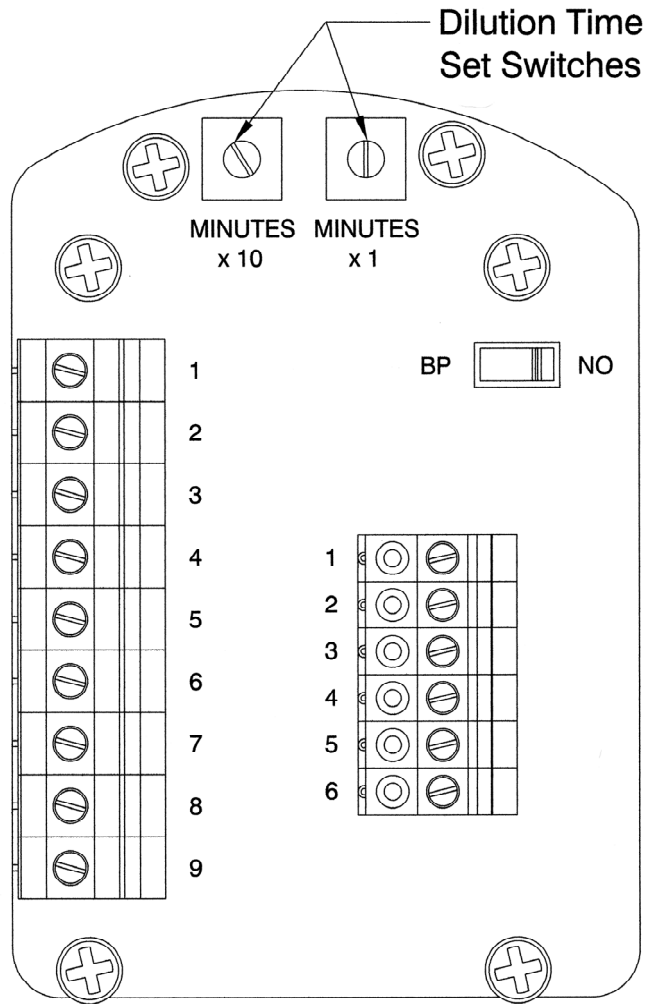

Figure 2
With Automatic Leakage Compensation Purge Gas Inlet Kit solenoid valve wires connected to correct terminal blocks in TRYCLOPS X – Purge Controller, SM Version set automatic dilution time cycle to ensure that at least five (5) times the volume of free space in the electronics enclosure is exchanged before power is automatically applied to the electrical equipment. Refer to Figure 2 for location and details of dilution time switches.